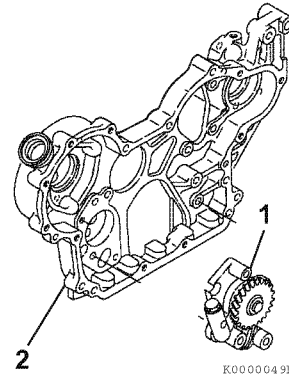

Figure 9-19
3. Reinstall the oil pump assembly **(Figure 9-19, (1))** into the gear case housing **(Figure 9-19, 2)**. Tighten the bolts to specified torque.